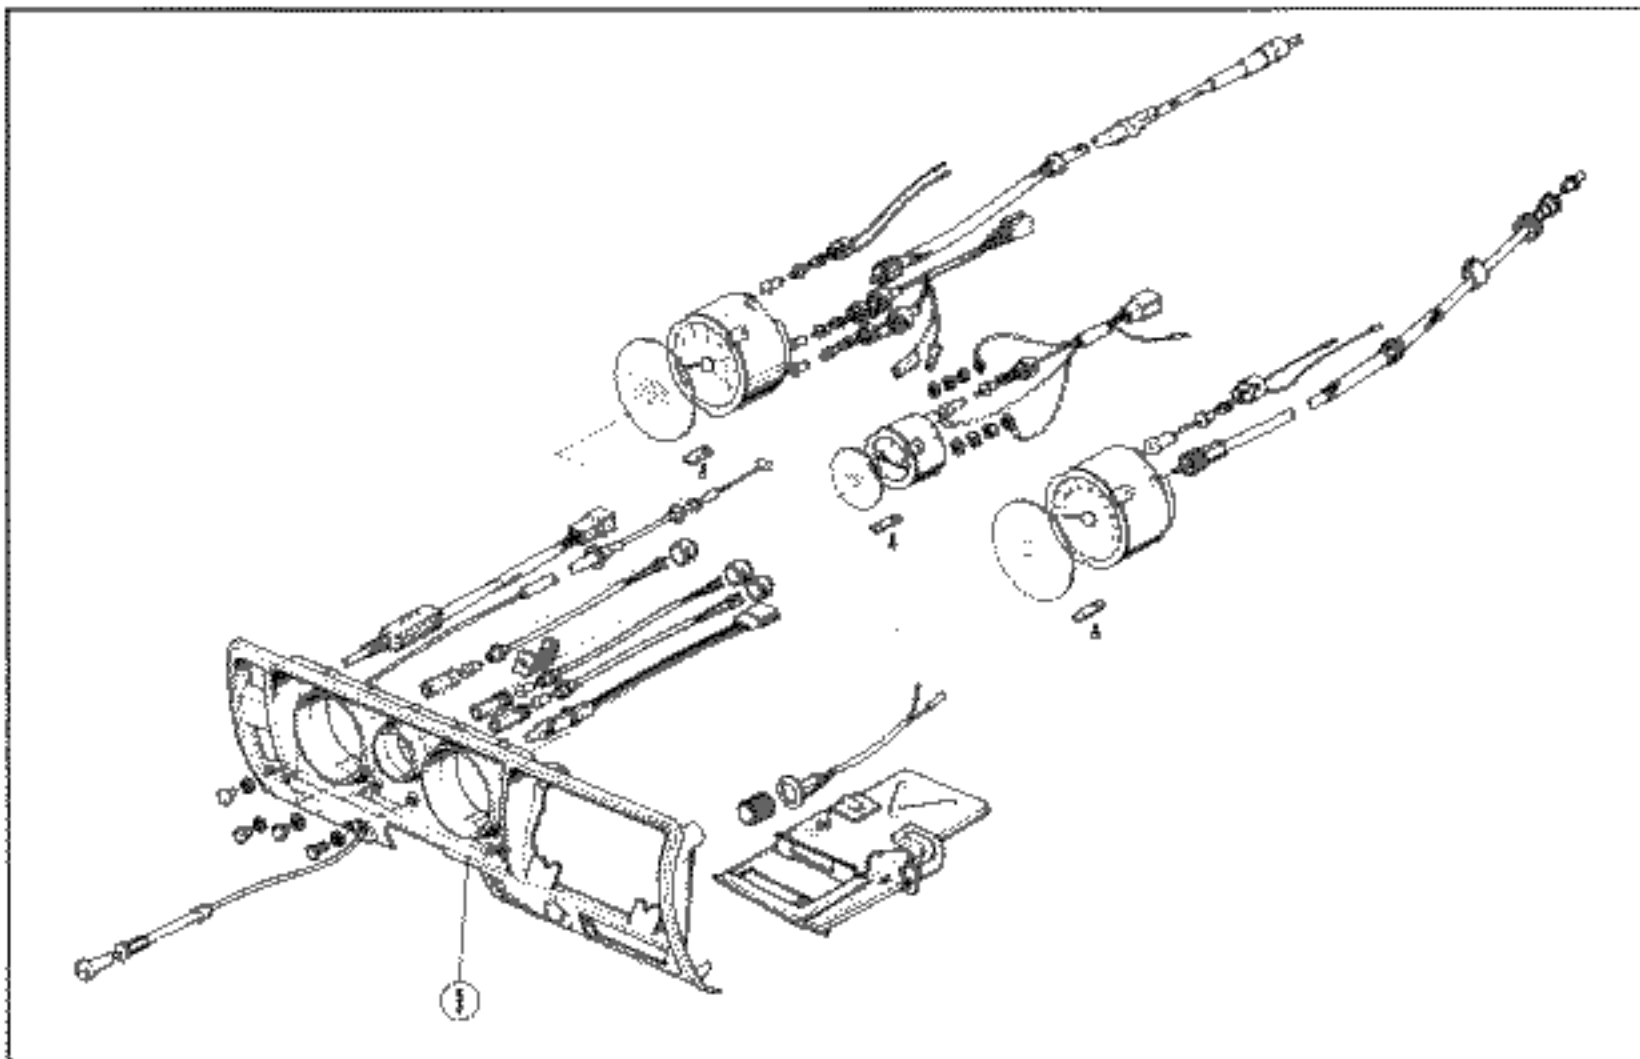

Fig. 15-8 ① Meter Panel
6. Remove respective meters (Fig. 15-8).